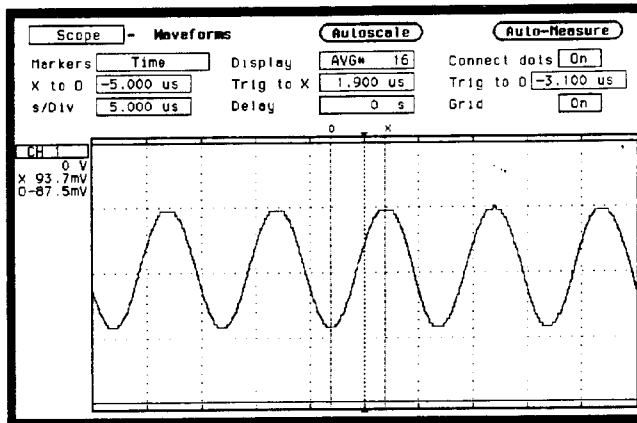

Figure 3-57. Waveforms Display Menu
- After the measurement settles (averaging complete, about 10 seconds) use **Auto-Measure** to obtain a peak-to-peak voltage measurement as in figure 3-57.